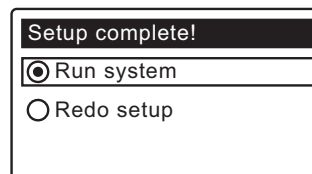

FIG. 19
- 8.** Press the SELECT (○) button. The screen will show “Setup complete!” (See Figure 19).
- If no changes are desired, make sure **Run system** has a black dot next to it (See Figure 19) and press the SELECT (○) button. The unit begins normal operation, described on the next page.